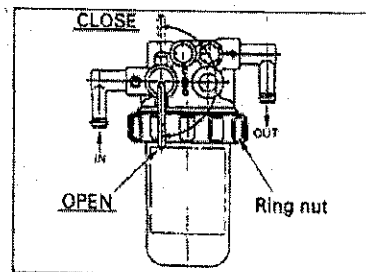

Fig 21 Fuel filter element
- (1) Turn the fuel filter lever (Fig 21) to the closed position.